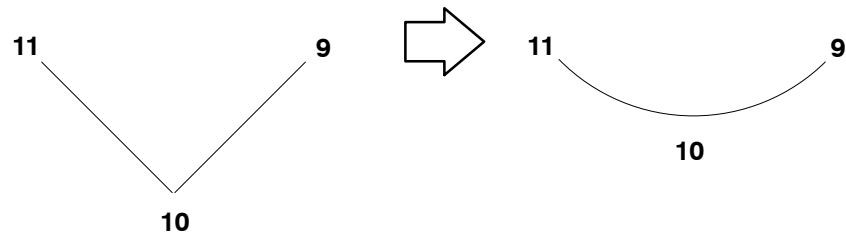

Figure 20 Example of the *Change to ARC Point* option
**Example:** Figure 20 shows a before and after diagram of the *Change to ARC Point* option.